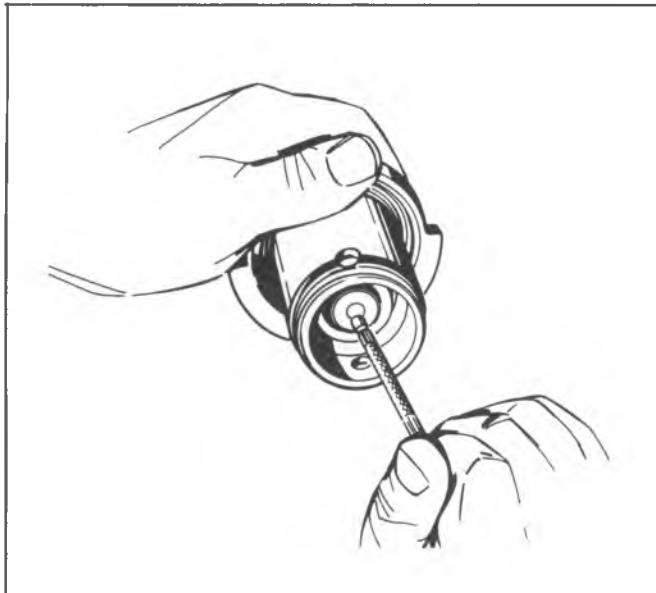

Fig. 5-7A--Removing Reaction Piston and Reaction Disc From Secondary Power Piston
7. Remove the reaction piston and reaction disc from the center of the secondary power piston by pushing down on the end of the reaction piston with a small object, such as a pencil, wooden dowel or metal rod (fig. 5-7A).